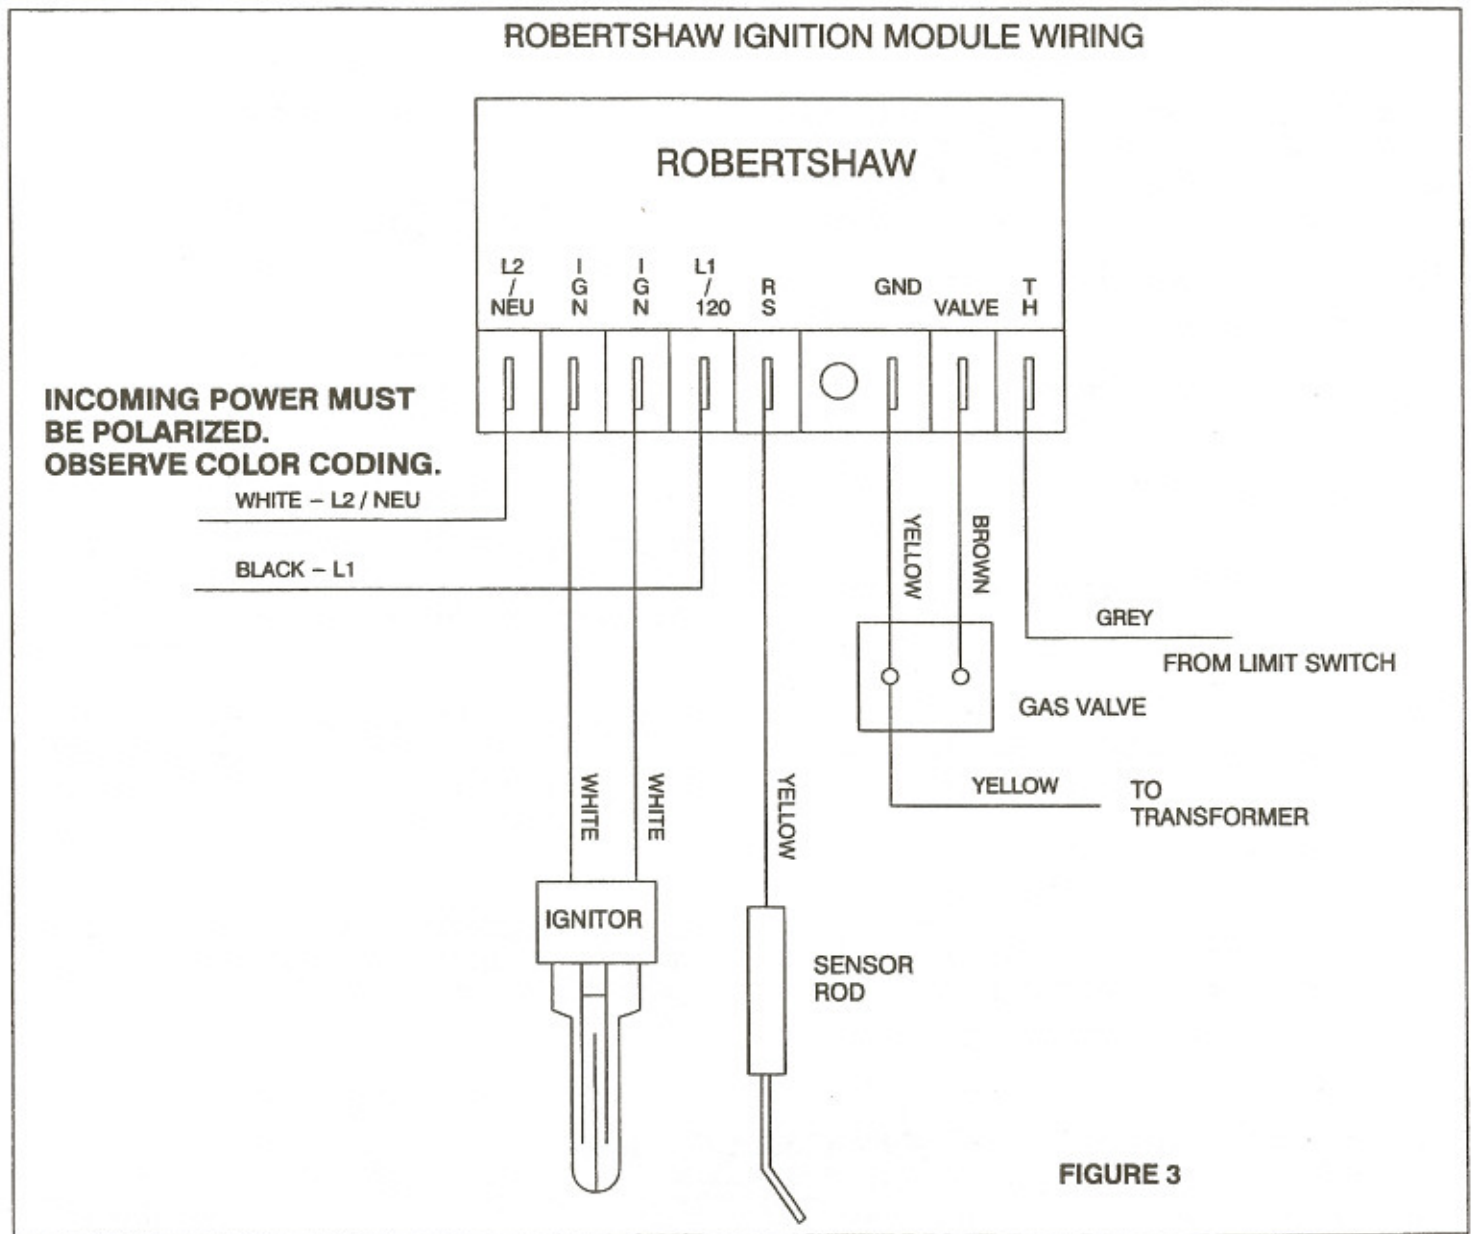

FIGURE 3
8. Rewire the new ignition module, as shown in Figure 3.